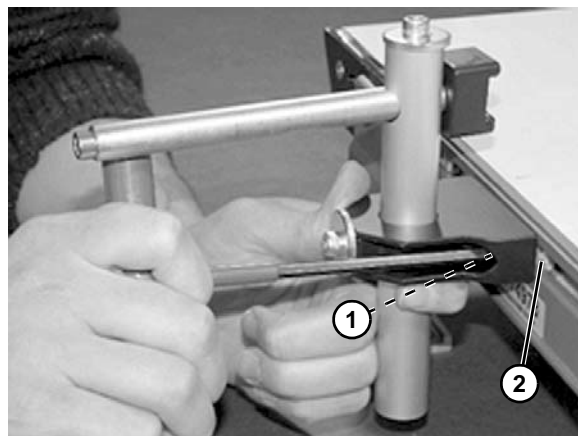

Figure 36
2. Tighten screws (**Figure 36, item 1**) making sure t-nut (**Figure 36, item 2**) rotates and engages inside of the t-slot.